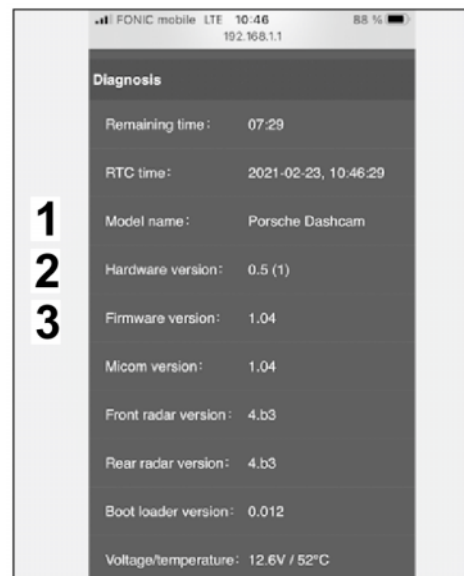

Figure 34
- 6.1 Information about the model name, hardware and software version, radar and more (⇒ *Figure 34*).